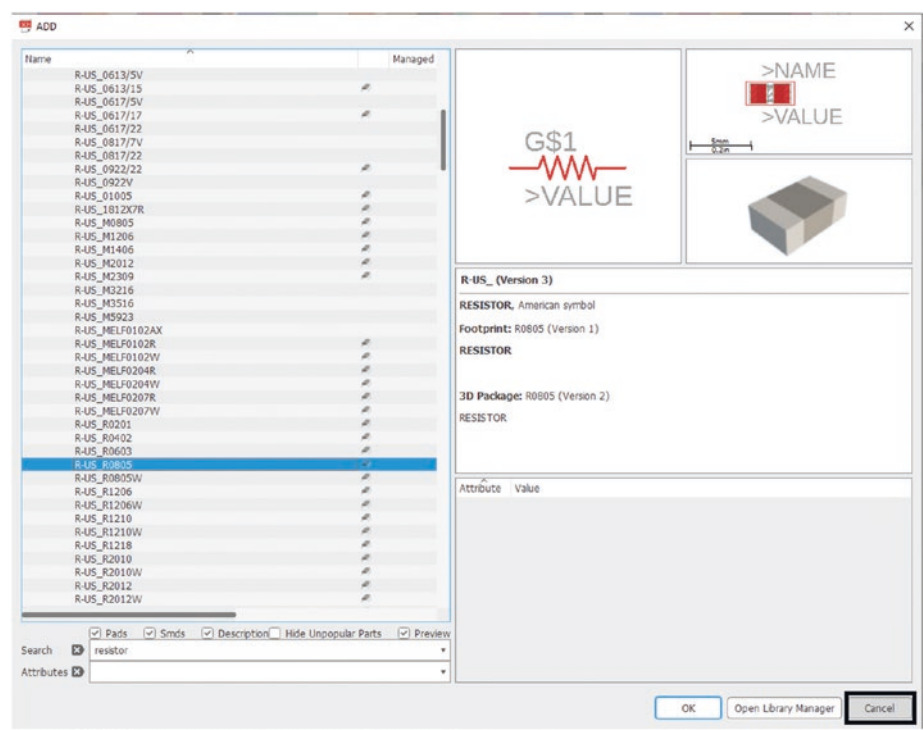

Figure 5-40. Get out of the ADD window
27. Press escape and click the cancel button. See Figure 5-40.